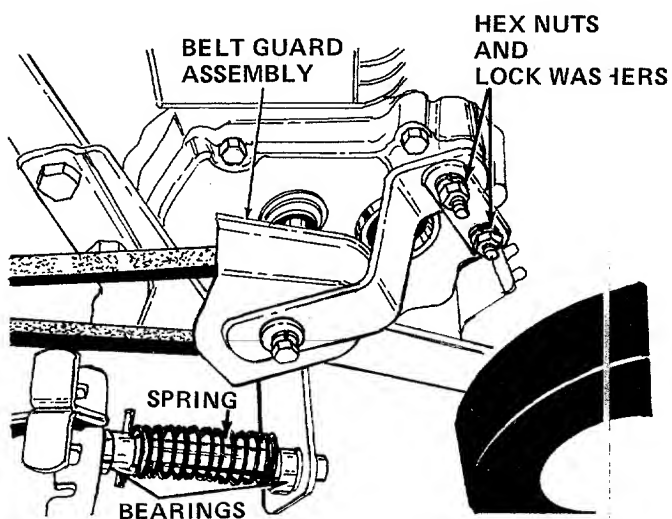

FIGURE 20
Shaft - Lubricate the two bearings and under the compression spring on the shaft with light oil at least once a season. See figure 20.
1. To remove the V-belt, remove the belt guard assembly at the engine pulley. Remove the hex nuts and lock washers. See figure 20.